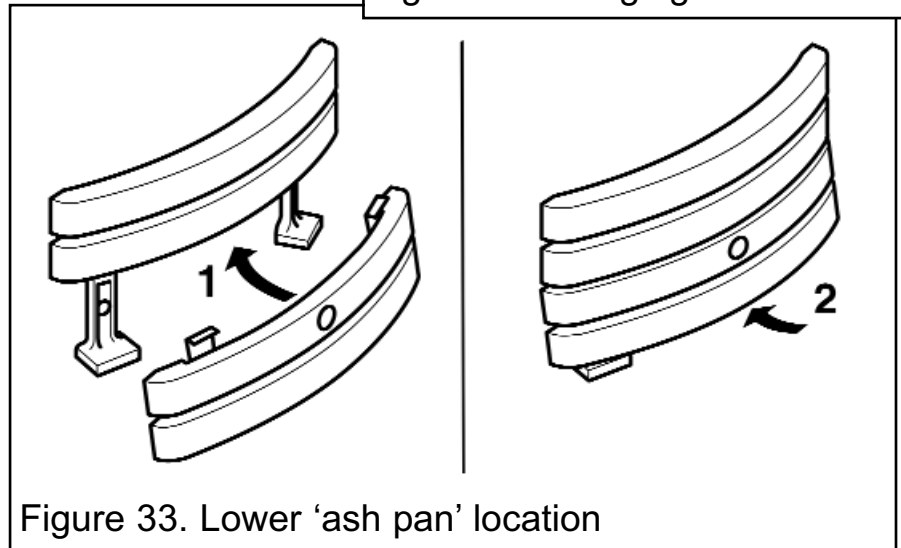

Figure 33. Lower 'ash pan' location
4. The lower 'ash pan' casting should be located as in figure 33.